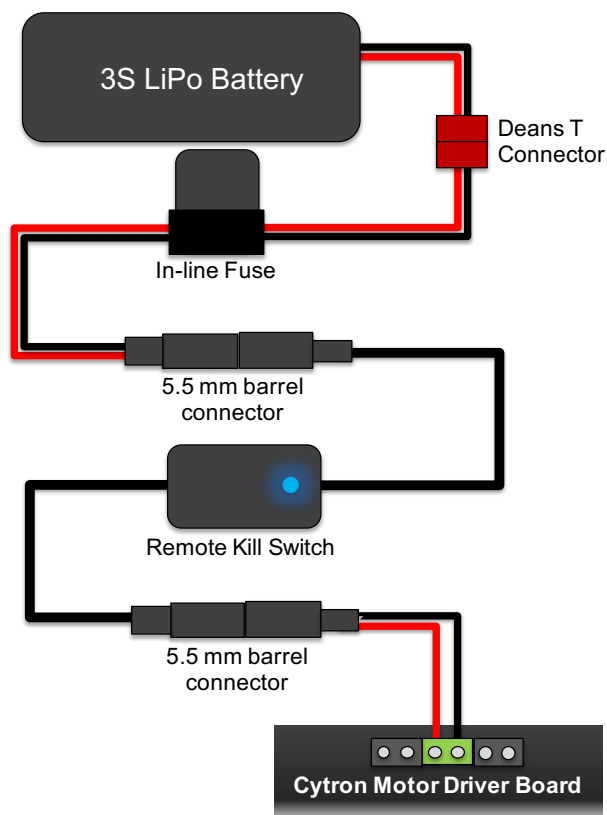

Figure 1 – A 3S LiPo battery is connected to a Cytron dual motor driver board. Between them are a series of safety features that regulate the flow of power.
6. Connect the male end of 5.5 mm barrel on the remote switch to the barrel connector you connected to the motor driver board. The system should now look like Fig. 1.